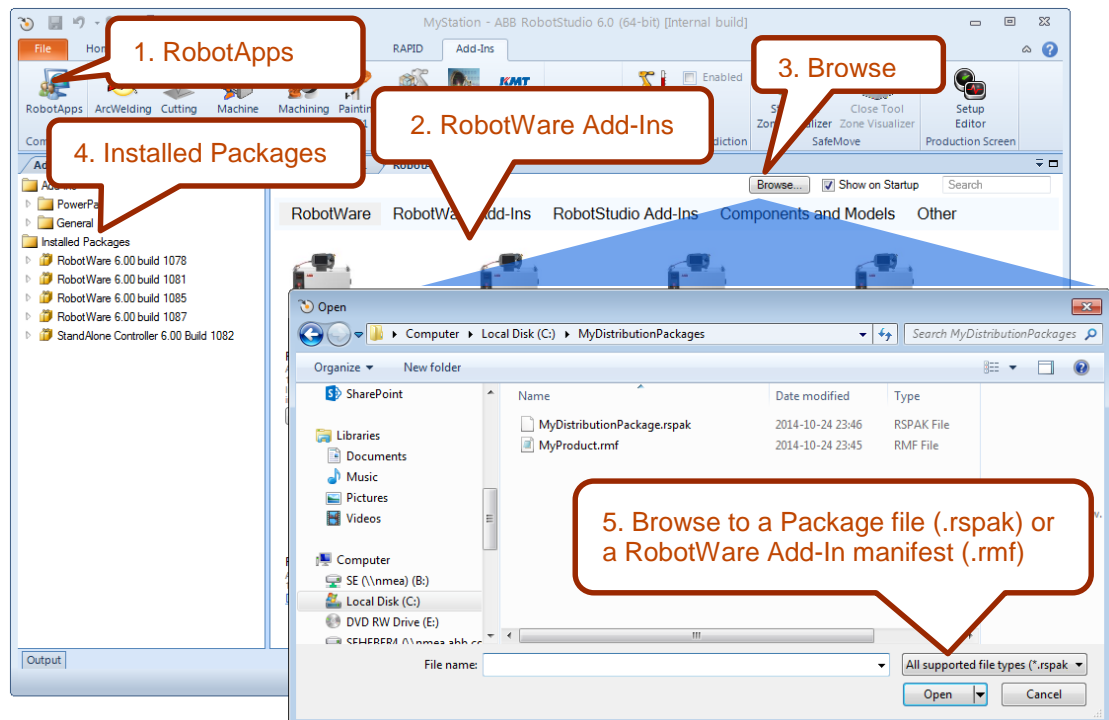

Figure 1: The RobotApps page is available from the Add-Ins tab of RobotStudio, see item 1.
RobotWare 6 comes with a *Distribution Package* that also contains RobotWare Add-Ins for Positioners and TrackMotion. The RobotWare Add-In for the StandAlone Controller (SAC) is a separate Package available from the RobotWare Add-Ins section of RobotApps, see item 2 of Figure 1.